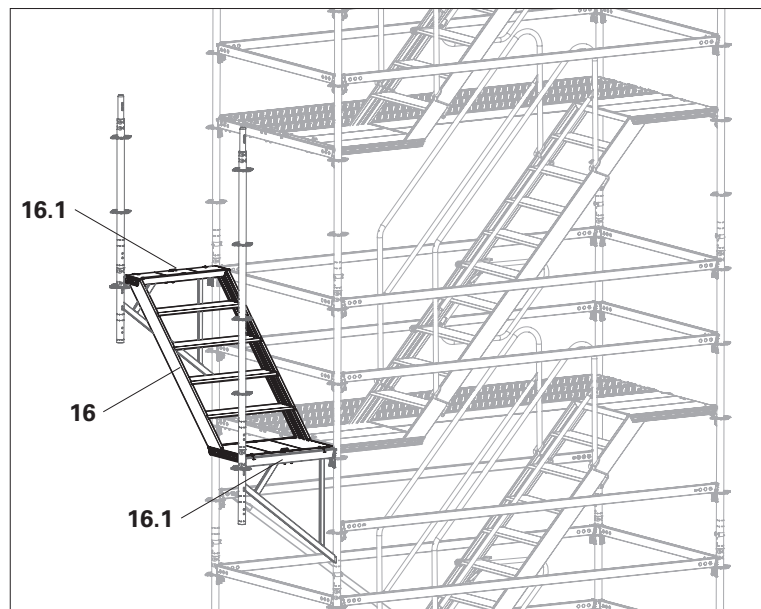

Fig. A7.03
4. Attach the flex stair (**16**). (Fig. A7.03)